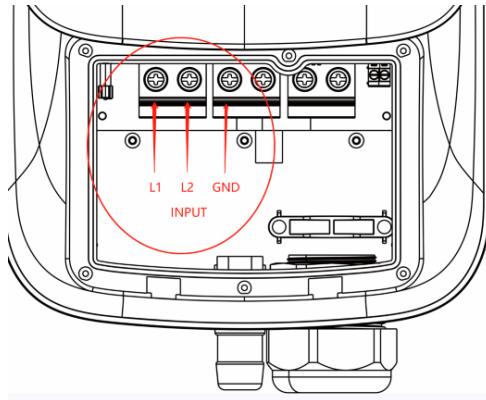

Fig. 5-7 Wiring
- Pass the prepared power cable through the input cable interface, connect each cable to the input terminals according to the terminal label L1, L2, and GND as shown in Fig. 5-7.